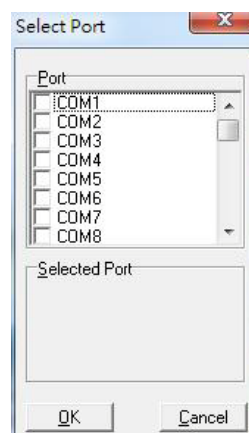

Figure 4.2 “Select Port” Dialog Box
2. There are two ways to select ports: 1) on the **Port** menu, click **Select**; or 2) press the **Port Select** button  on the toolbar. This will open the **Select Port** dialog box (Figure 4.2).